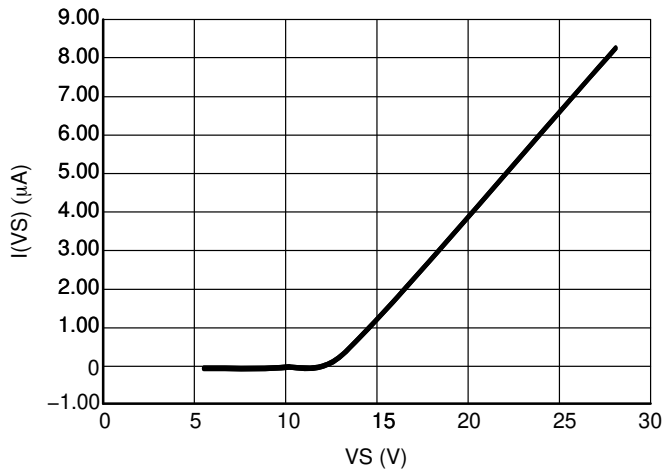

Figure 13. I(VS) Standby Current vs. VS at 25°C
- Refer to Figures 13 and 18 for the VS standby current behavior.